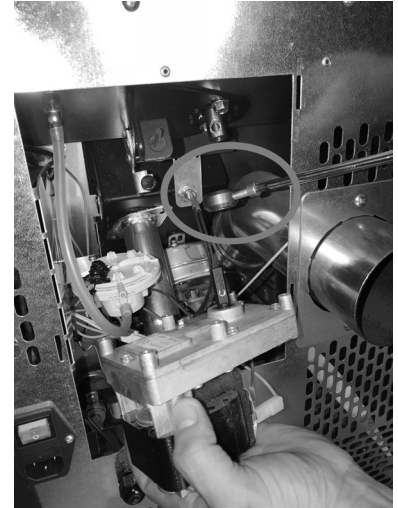

Fig. 38 - Gear motor removal
- Remove the gear motor by loosening the locking screw (see **Fig. 38**).